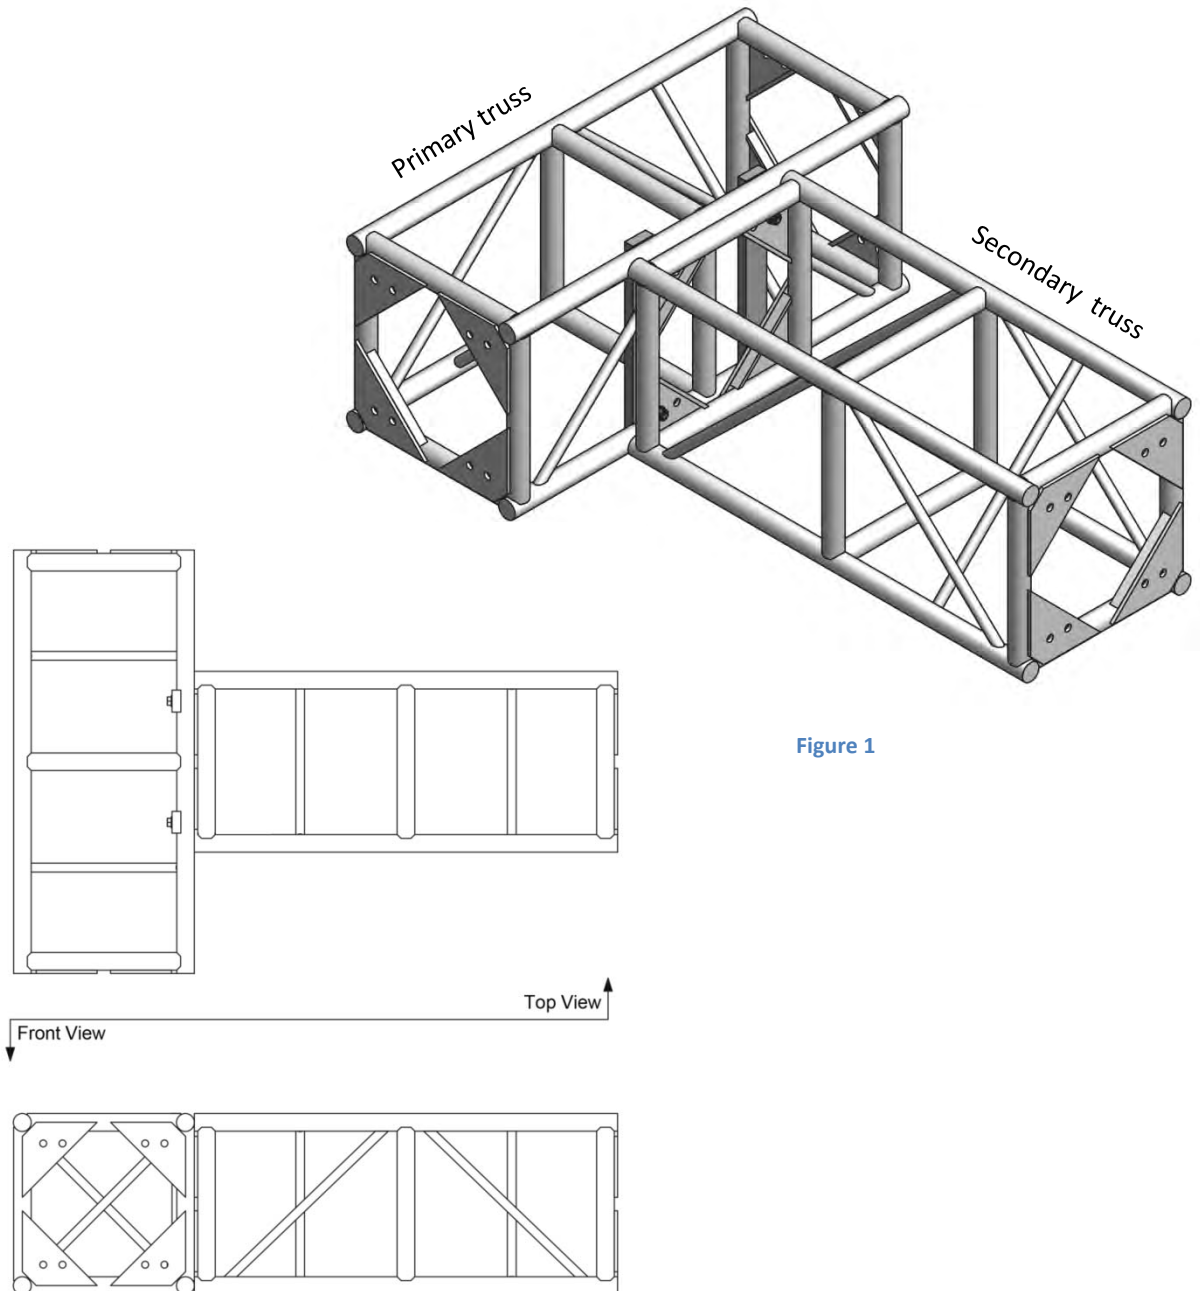

Figure 1
Grapples are designed to join trusses in the manner shown in Figure 1 below only. Any other configuration is untested and may be dangerous. Two (2) Grapples must be used at each junction when joining box truss. *Do not use more than one pair of Grapples per junction.*